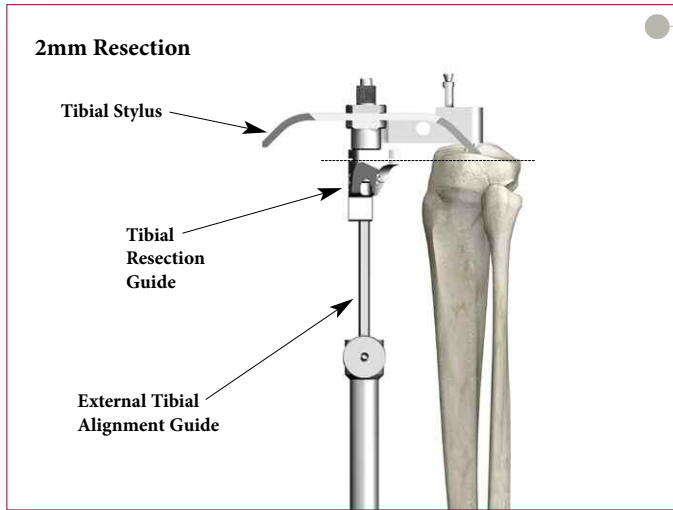

Figure 51
- ▶ The settings allow for a corresponding resection of bone below the point of the stylus (i.e. the 2mm setting allows for a 2mm resection below the point of the stylus) (Figures 51 and 52).